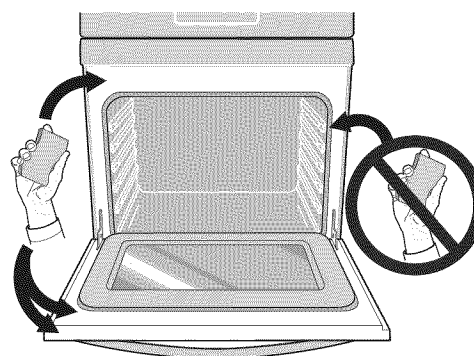

Figure 5: Areas to clean or avoid on door frame
- Clean any soil from the oven frame, the door liner outside the oven door gasket and the small area at the front center of the oven bottom. These areas heat sufficiently to burn soil on. Clean with soap and water. These areas are shown in white (See Figure 5).
- Do not clean the oven gasket (See Figure 5). The woven material in the gasket is essential for a good seal. Do not rub, damage, or remove the oven frame gasket. Doing so could compromise the performance of the oven.